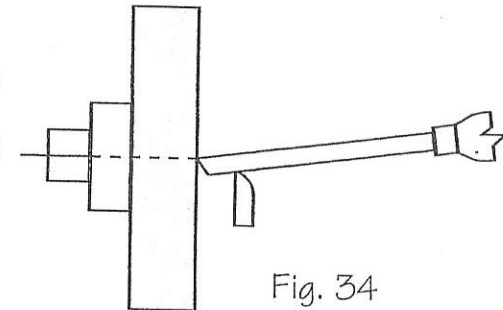

Fig. 34
**Remember when using scrapers to maintain a trailing action of the blade. See Fig. 34.**
When using **scraping tools**, the height of the rest has to allow the tool to reach to the center of the work while maintaining a trailing action with the blade. (Fig. 34).